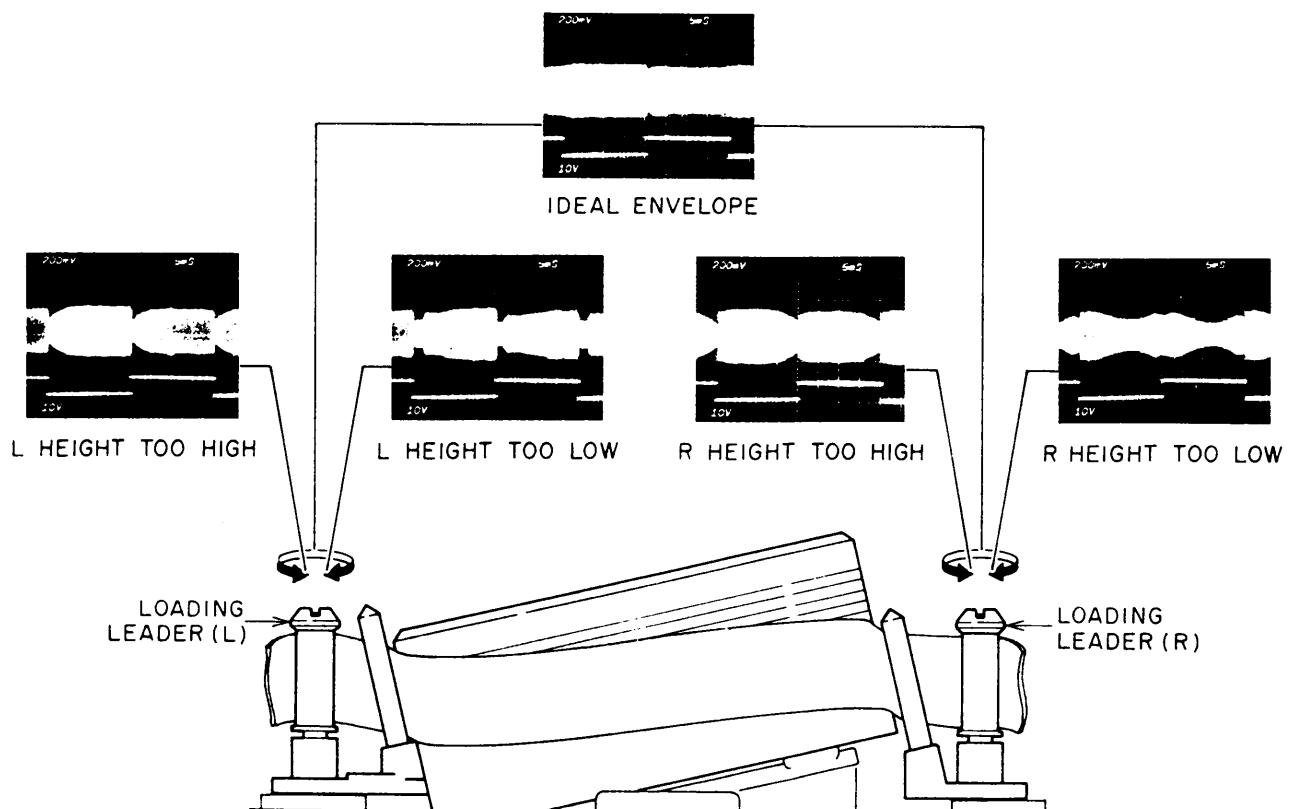

Fig. 6-5
- 3) Connect an oscilloscope to TP1 (RF ENVELOPE) on the MAIN PC BOARD, and turn the LOADING LEADER height adjustment screw heads to obtain the flat envelope as Fig. 6-5 ideal envelope. After the adjustments, tighten the LOADING LEADER set screw.
- 2) Slightly turn the LOADING LEADER HEIGHT ADJUSTMENT SCREW HEAD (L) (R) to obtain the IDEAL ENVELOPE as shown in Fig. 6-5.